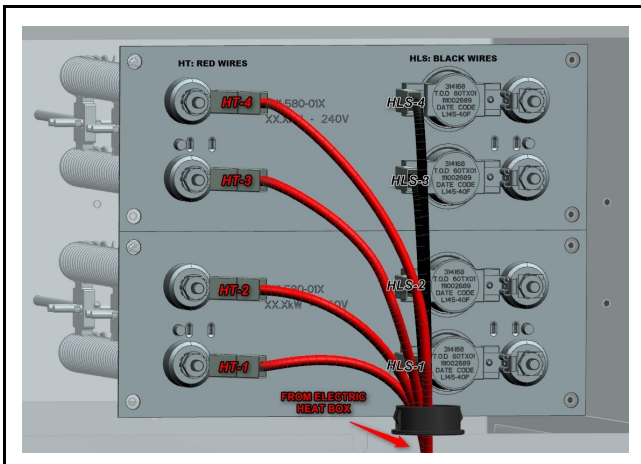

Fig. 13 HT and HLS connections
2. Ensure that the red and black high-voltage wires originating from Electric Heat control box to the Electric Heat elements are reconnected as shown in Fig. 13. (The Black wires are labeled HLS at the thermal overloads, and the Red wires labeled HT at the heater element connections.)